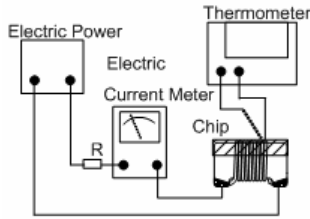

Fig. 6.3.4-1
- d. Definition of Rated Current (Ir): Ir is direct electric current as chip surface temperature rose just 40°C against chip initial surface temperature (Ta) (see Fig. 6.3.4-2).